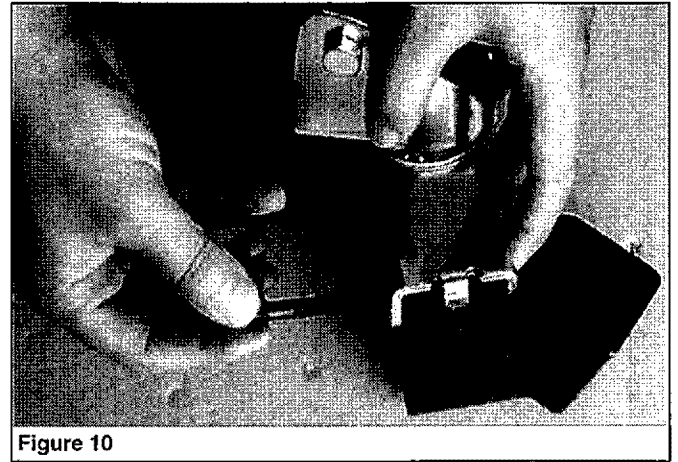

Figure 10
- The kick plate cam must be underneath the caster to function properly (see Figure 10).
- Refer to Figures 10 and 11; place caster onto the bracket and secure in position with bolt and hex nut.